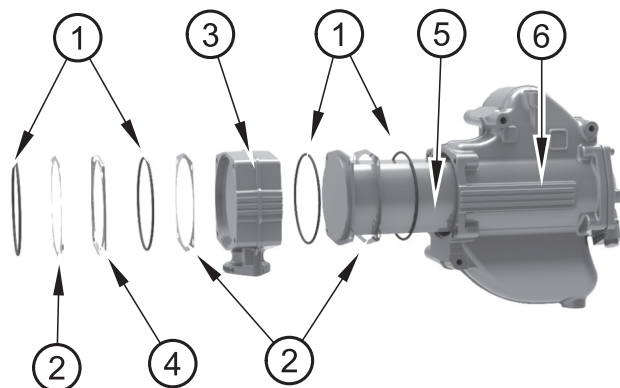

Figure 21
3. The aftercooler assembly can be broken down as per figure 21.